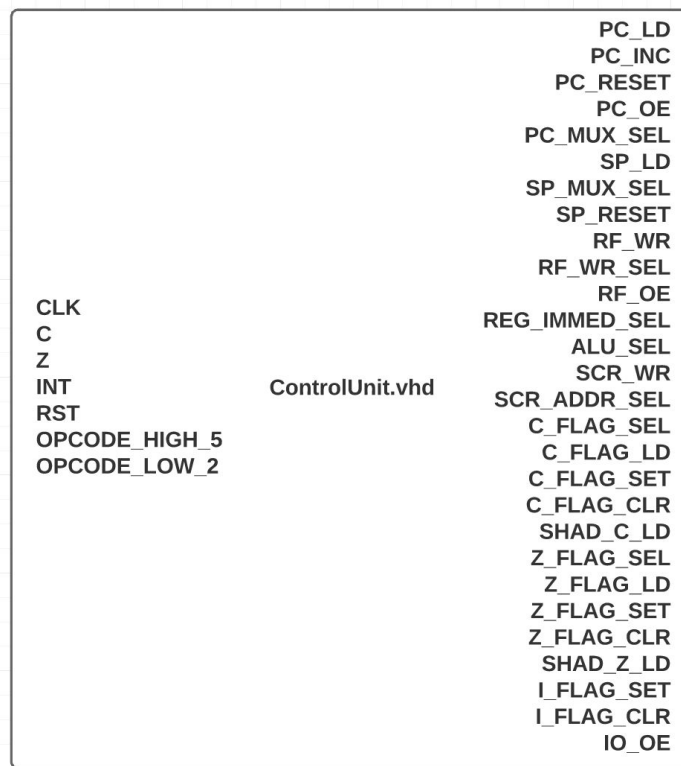

Figure 2: The ControlUnit BBD
2. Use the same approach to fill out the ControlUnit.vhd skeleton with signals as shown in Figure 2.